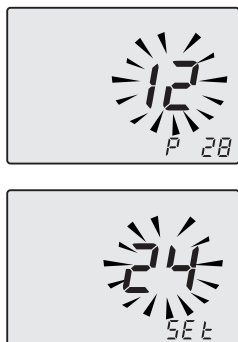

Fig. 9.4
- Use key 9 or 10 to modify the value of parameter 28 from **00** months to **48** months. The value **99**, which disables the maintenance request, is permitted. The writing **P28 - Set** alternates on the display (Fig. 9.4).